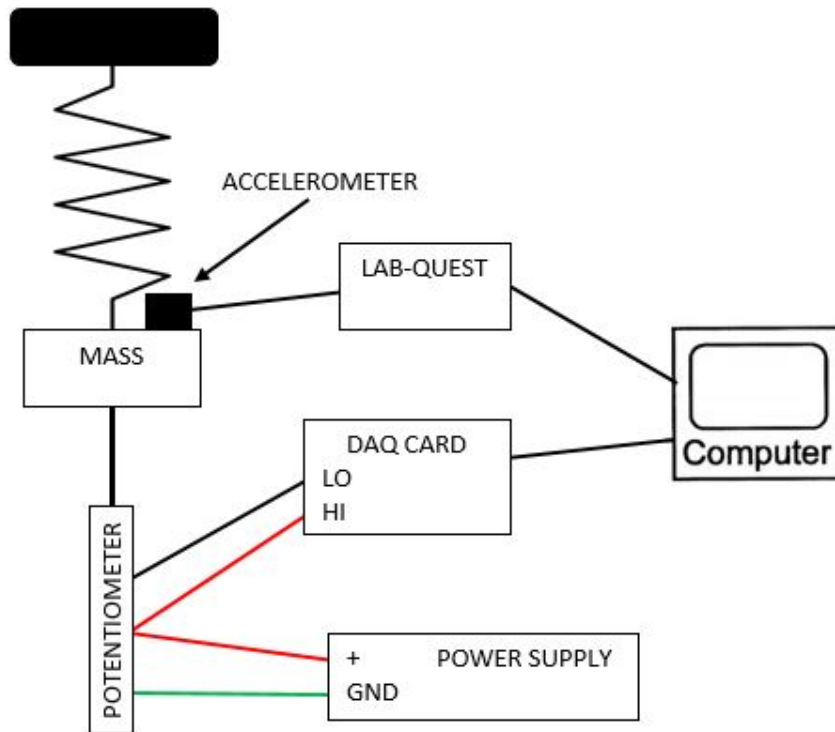

Figure 2: Vertically suspended spring-mass-damper system
4. Determine the calibration range. Mount the mass and spring to the test stand with the potentiometer attached (refer to Figure 2 in Appendix.A for the set up). Determine the range of the potentiometer that will traverse during the operation of the system, by displacing the system to the maximum and minimum positions that you anticipate during experiment, and measure the output resistances at these positions. Note the displacements and resistances in your logbook.
10. Set up the dynamic response system as shown in Figure 2 of Appendix A. Mount the linear potentiometer and Vernier accelerometer to the mass-spring set such that the motion of the system can be measured accurately. Power the sensor with the appropriate excitation from power supply (linear potentiometer: 5 V DC). Connect the output signal of the sensors to the appropriate channels of the DAQ. Check the VI block diagram for the correct channel and device settings. Note connection information in your logbook.